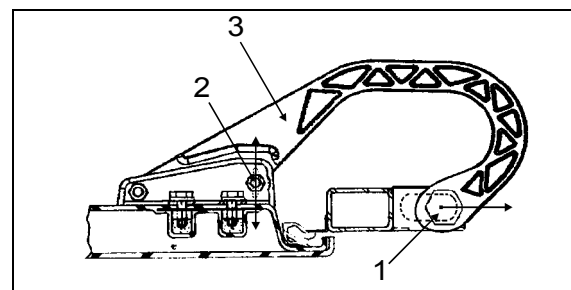

FIGURE 60: DOOR HINGE 18196
2. Loosen nut (1, Fig. 60).
3. Move part (3, Fig. 60) as shown in figure for "LEFT or RIGHT" adjustment.
4. Tighten nut (1, Fig. 60).
5. Loosen nut (2, Fig. 60).